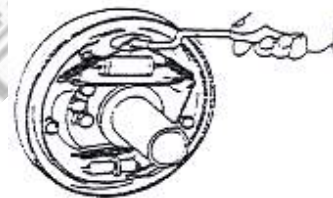

Fig. 2-29
- (7) Fit the compression spring on the hand brake push rod. Fit the push rod on the brake shoe. See Fig. 2-29.